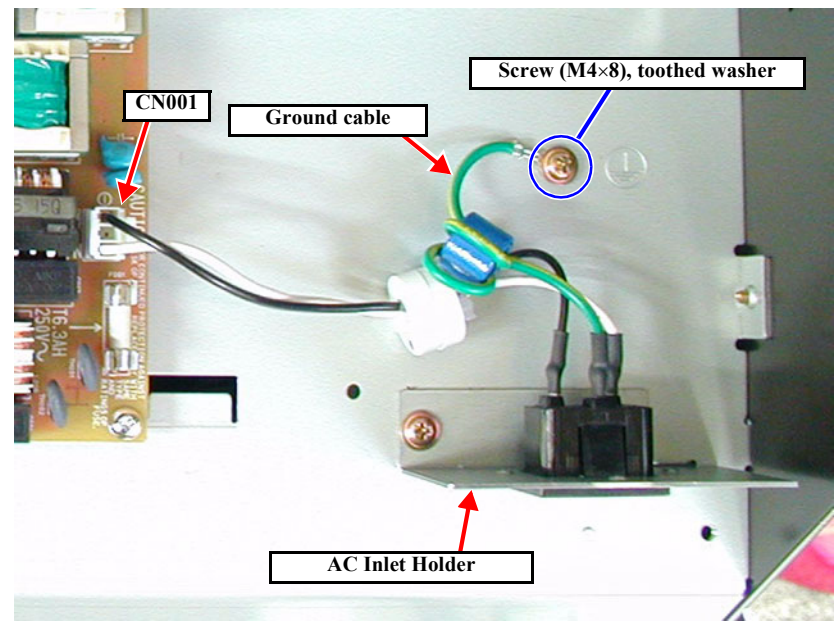

Figure 4-81. Removing the AC Inlet Holder
2. Disconnect CN001 from the Power Supply Board. (See Figure 4-81)